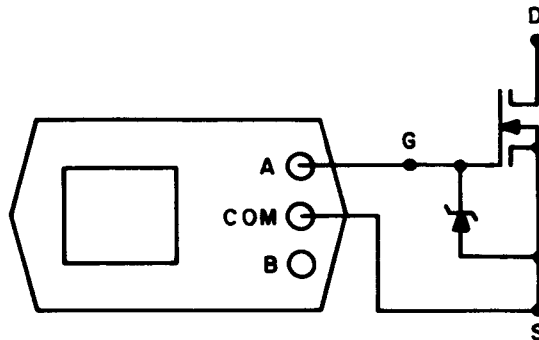

Figure 4-22. Tracker Connections to the Gate and Source
TESTING GATE AND SOURCE. To test the gate and source of the VN10KM, connect the test probes to the gate (G) and source (S) terminals as shown in Figure 4-22. Note that the drain (D) terminal is not connected.